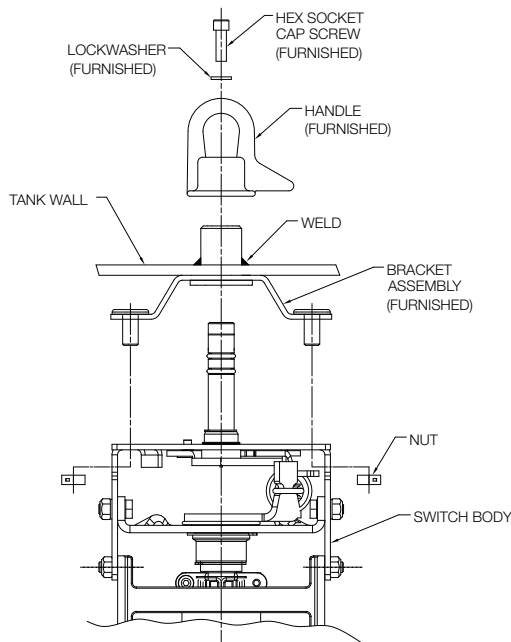

Figure 2. 2-position weld-in mount offset loadbreak switch.
1. Remove the weld-in bracket assembly from the switch and insert the bracket assembly through the tank hole (from inside). (Refer to Figure 2.)